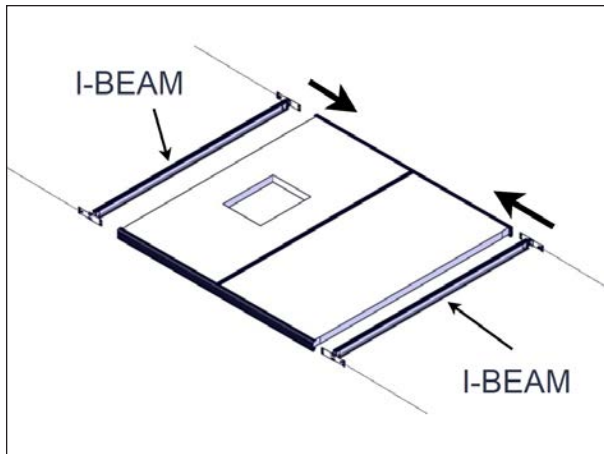
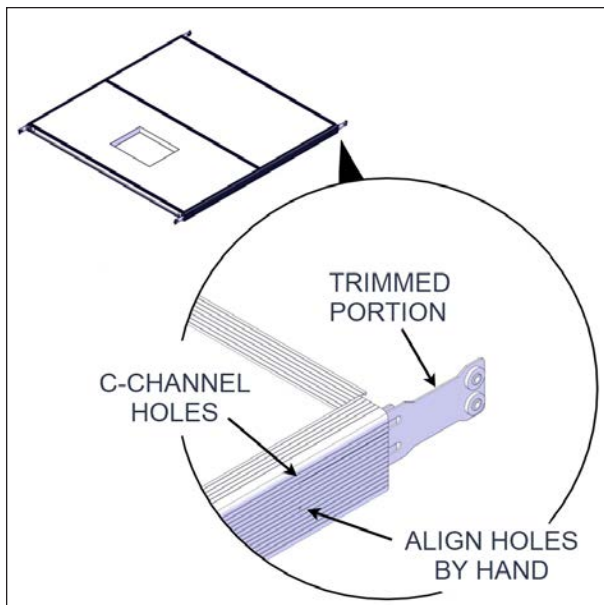

FIGURE 43: INSTALL BOTH I-BEAMS WITH LONG I TO C CONNECTION PLATES
FIGURE 44: TRIMMED PORTION ORIENTATION
6. Install both I-beams with the long I to C connection plates. Ensure the trimmed portion of the I to C connection plate faces toward the end of the cover, see Figure 43 and Figure 44.
7. Align by hand the C-channels (left and right sides) in such a manner that the I to C connection plate holes are visible behind the C-channel, see Figure 44.